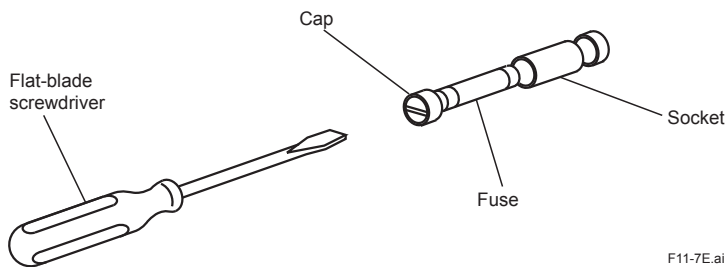

Figure 11.7 Removing the Fuse
- (1) Turn off the power to the converter for safe replacement.
- (2) Remove the fuse from its holder. With the appropriate flat-blade screwdriver that just fits the holder cap slot (Figure 11.7), turn the fuse holder cap 90° counterclockwise. By doing so, you can remove the fuse together with the cap.
- (3) Check the rating of the fuse and that it satisfies the following: